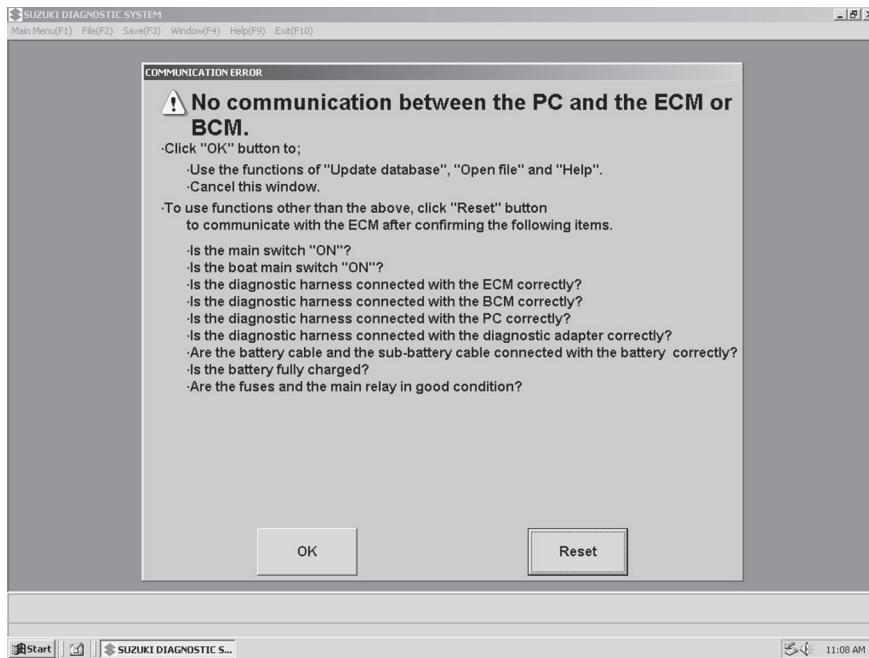

Fig.34
6. Pressing the Enter key displays the Communication Error dialog box. (Fig.34)